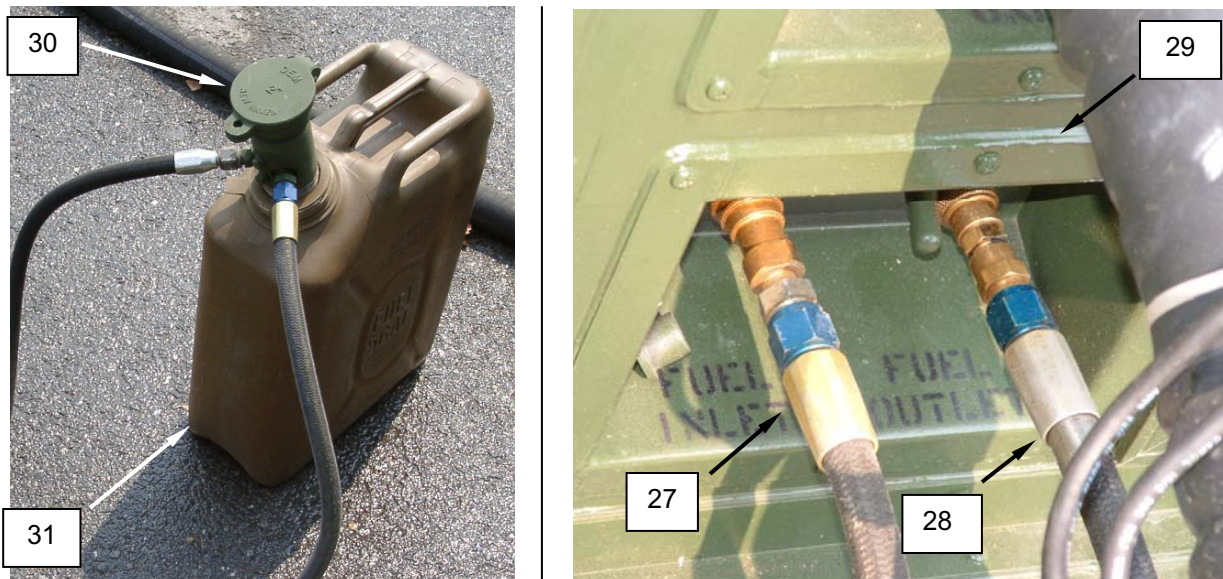

Figure 22. Disconnect Fuel Supply.
1. Disconnect fuel can supply hose (**Figure 22, Item 27**) and vent hose (**Figure 22, Item 28**) from fuel connector service panel (**Figure 22, Item 29**). Drain fuel back into fuel can.
2. Disconnect hoses from fuel can adapter (**Figure 22, Item 30**). Drain fuel in drip pan. Remove and stow fuel can adapter.
3. Dispose of fuel or return to bulk fuel supply in accordance with unit standard operating procedure. Replace fuel can cap. Set empty fuel can (**Figure 22, Item 31**) aside for packout.